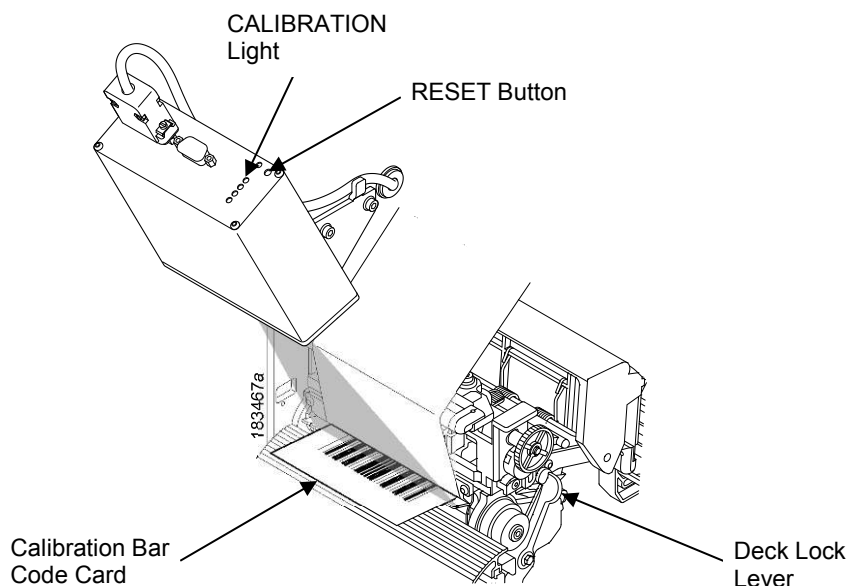

Figure 30 Calibrating the Validator
3. Remove the calibration bar code card from its protective sleeve and slide the top edge between the printhead and platen and under the scanning beam (Figure 30).